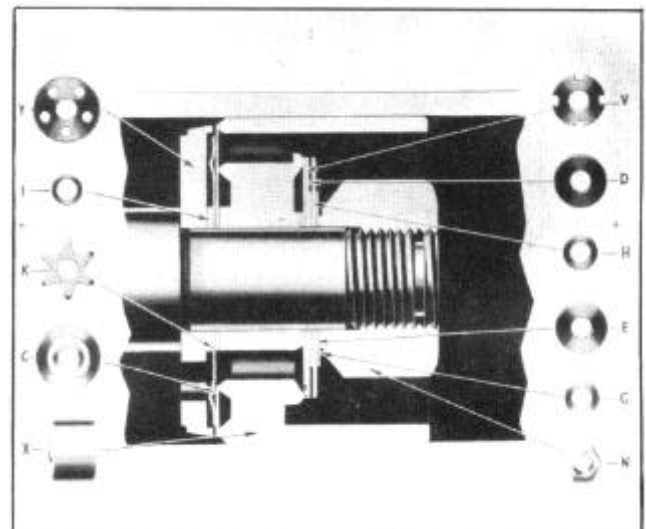
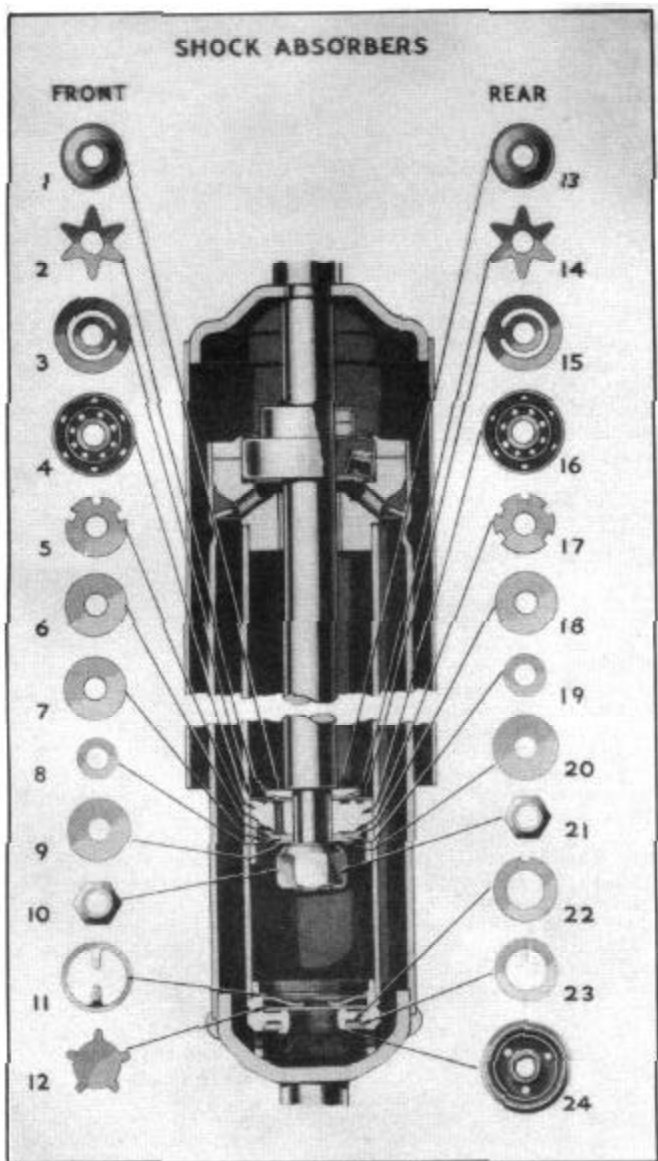

Figure 31--Delco Shock Absorber Relief Valve Detail
Figure 35--Shock Absorber - Monroe
This Valve Assembly is known as a 2-Stage Valve, see Figure 31. Metering washer (V) and spring disc (D) can be considered the 1st stage. Spring disc (E) and valve back plate (G) can be considered the 2nd stage. Spacing disc (H) from its name acts as a means of separating the 2nd stage of the valve from the 1st stage.
9. Place the upper part of the shock absorber in holding fixture J 993-1 and clamp in vise with the open end of the shock absorber up and then push the pressure tube down as far as it will go. 10. Remove the following on the Front Shock Absorber in the order given--See Figure 35:
Remove piston rod nut (10), Figure 35, pressure relief valve disc (9) (2 used), pressure relief valve back plate (8), pressure relief valve disc (7), pressure relief valve disc (6), metering washer (5), piston (4). Be sure to mark location of piston on rod to insure it being replaced in same position, intake valve (3), intake valve star spring (2) and support washer (1).
Remove piston rod nut (21), Figure 35, pressure relief disc (20) (2 used), pressure relief valve back plate (19), pressure relief valve disc (18), metering washer (17), piston (16). Be sure to mark location of piston on rod to insure it being replaced in same position, intake valve (15) intake valve star spring (14) and support washer (15).
Remove piston nut (N), Figure 31, back plate (G), relief valve disc (E), spacing disc (H), relief valve disc (D), metering washer (V), piston (X), intake valve plate (C), star spring (K), spacer washer (I) and valve washer (Y).
Check valve assembly to see that the parts are thoroughly clean and in correct relation to each other as shown in Figures 31 or 35.
1. Disassemble the front shock absorber and replace the piston metering washer (V), Figure 31, or (5), Figure 35, having 3 slots with a piston metering washer having 2 slots.
2. Also remove the pressure relief valve disc (D)\*, Figure 31, or (7), Figure 35, .008, 1 thick and also disc (D)\*, Figure 31, or (6), Figure 35, .006" thick. Install in their place one only .01011 thick.
1. Disassemble the rear shock absorber and replace the piston metering washer with 5 slots (V), Figure 31, or (17), Figure 35, with a washer having 3 slots.
2. Also replace the pressure relief valve disc .008" thick (D), Figure 31, or (18), Figure 35, with a disc .010!! thick.